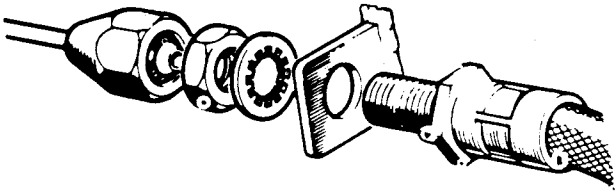

Fig J1.18
- (5) Refer to Fig J1.18. Disconnect the front brake pipes at their connections with the flexible pipes each side of the vehicle and withdraw the flexible pipes from the chassis brackets.
- (6) Depress and wedge the brake pedal to prevent further leakage of brake fluid.